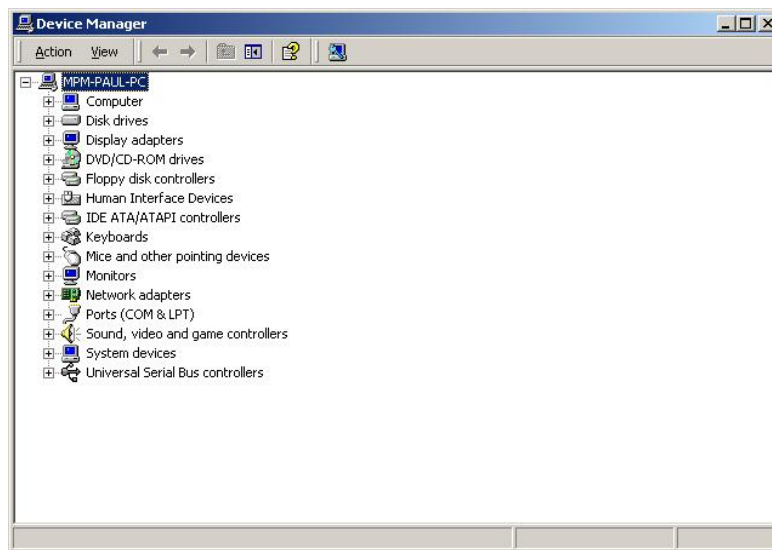

Figure 6-15: Device Manager List
Step 4: A list of system hardware devices appears (Figure 6-15).